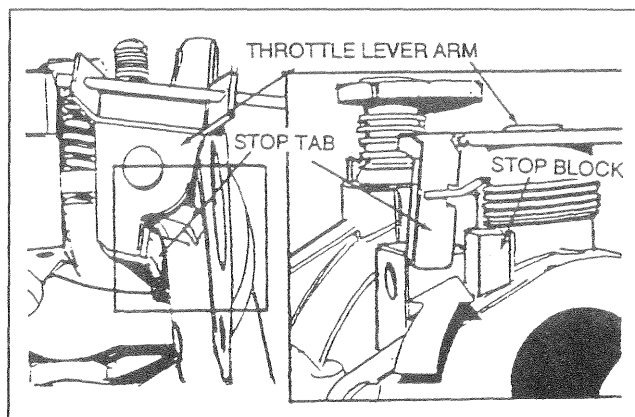

Figure 8 — Gap Between Stop Tab and Stop Block
2. There should be a gap of 0.003 inch (0.08-0.5mm) between stop tab on throttle lever arm and the stop block on the carburetor die casting (Figure 8).